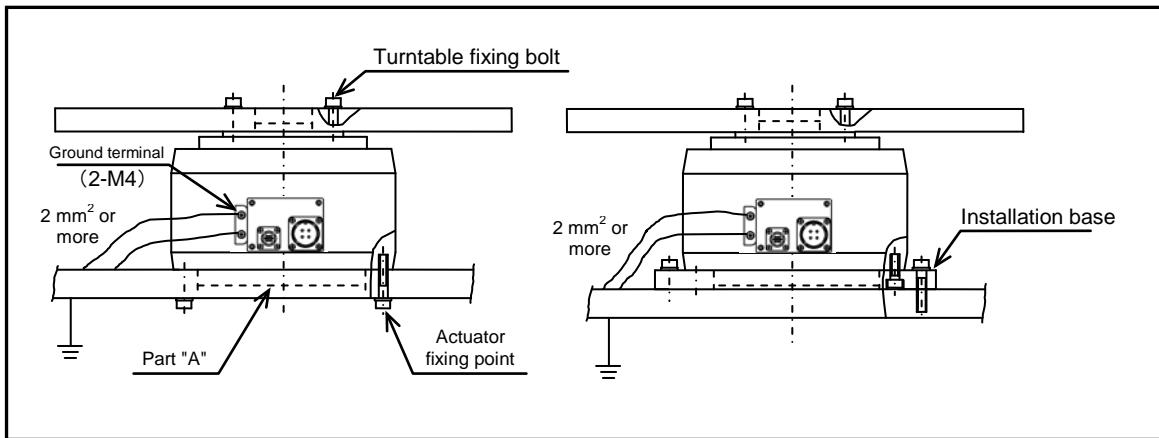

Fig. 2.1 Actuator Installation
- ◆ The part "A" in Fig. 2.1 contains the precision part to detect position. DO NOT LOOSEN the bolts in the part "A." Also do not install parts or apply excessive force on part "A" as designed accuracy and function may be ruined.